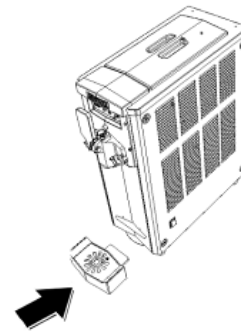

Fig. 56
- Replace the drip tray (Fig. 56).